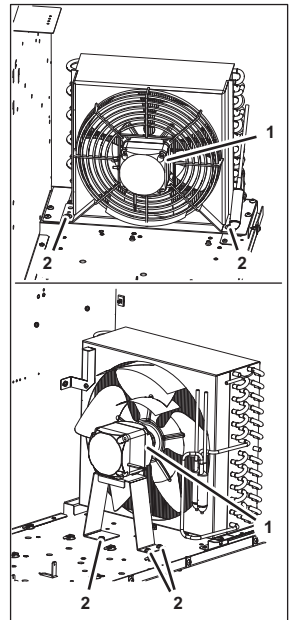

Figure 123
2. Remove the fastening bolts (Figure 123/2) from the fan (Figure 123/1).
3. Carefully lift the air scoop with fan (Figure 123/1) out of the unit.
8. Position the new fan (Figure 123/1) within the unit.
9. Attach the air scoop with fan (Figure 123/1) using the fastening bolts (Figure 123/2).